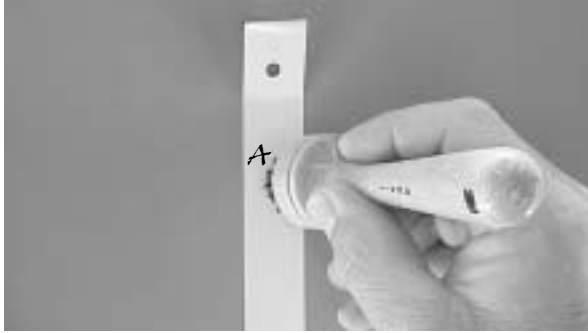

Figure 2. Firmly Adhering Film Strip To Wall
7. Now use the rivet brush on the test strips. Work in the long direction of the test strip three times, using firm pressure and a circular motion. See Figure 2.